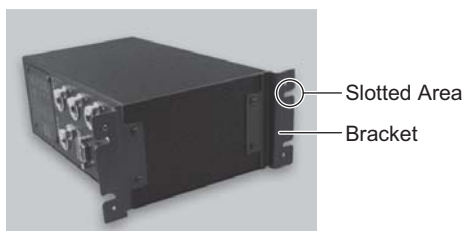
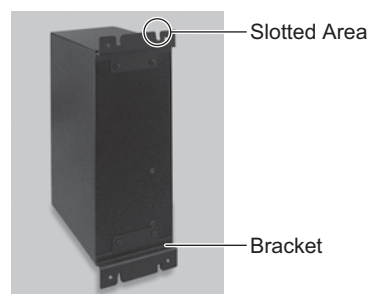

Fig. 6
Fig. 7
- The Bracket can be installed on the " Bottom mounting (Fig. 6) " and on the " Rear mounting (Fig. 7) " of the SELECTOR.
- (1) Attach the Installation Brackets (2pcs.) using the provided mounting screws (4pcs.).
- (2) Attach the SELECTOR (Bracket' s Slotted Area) to the machine using the provided mounting screws.